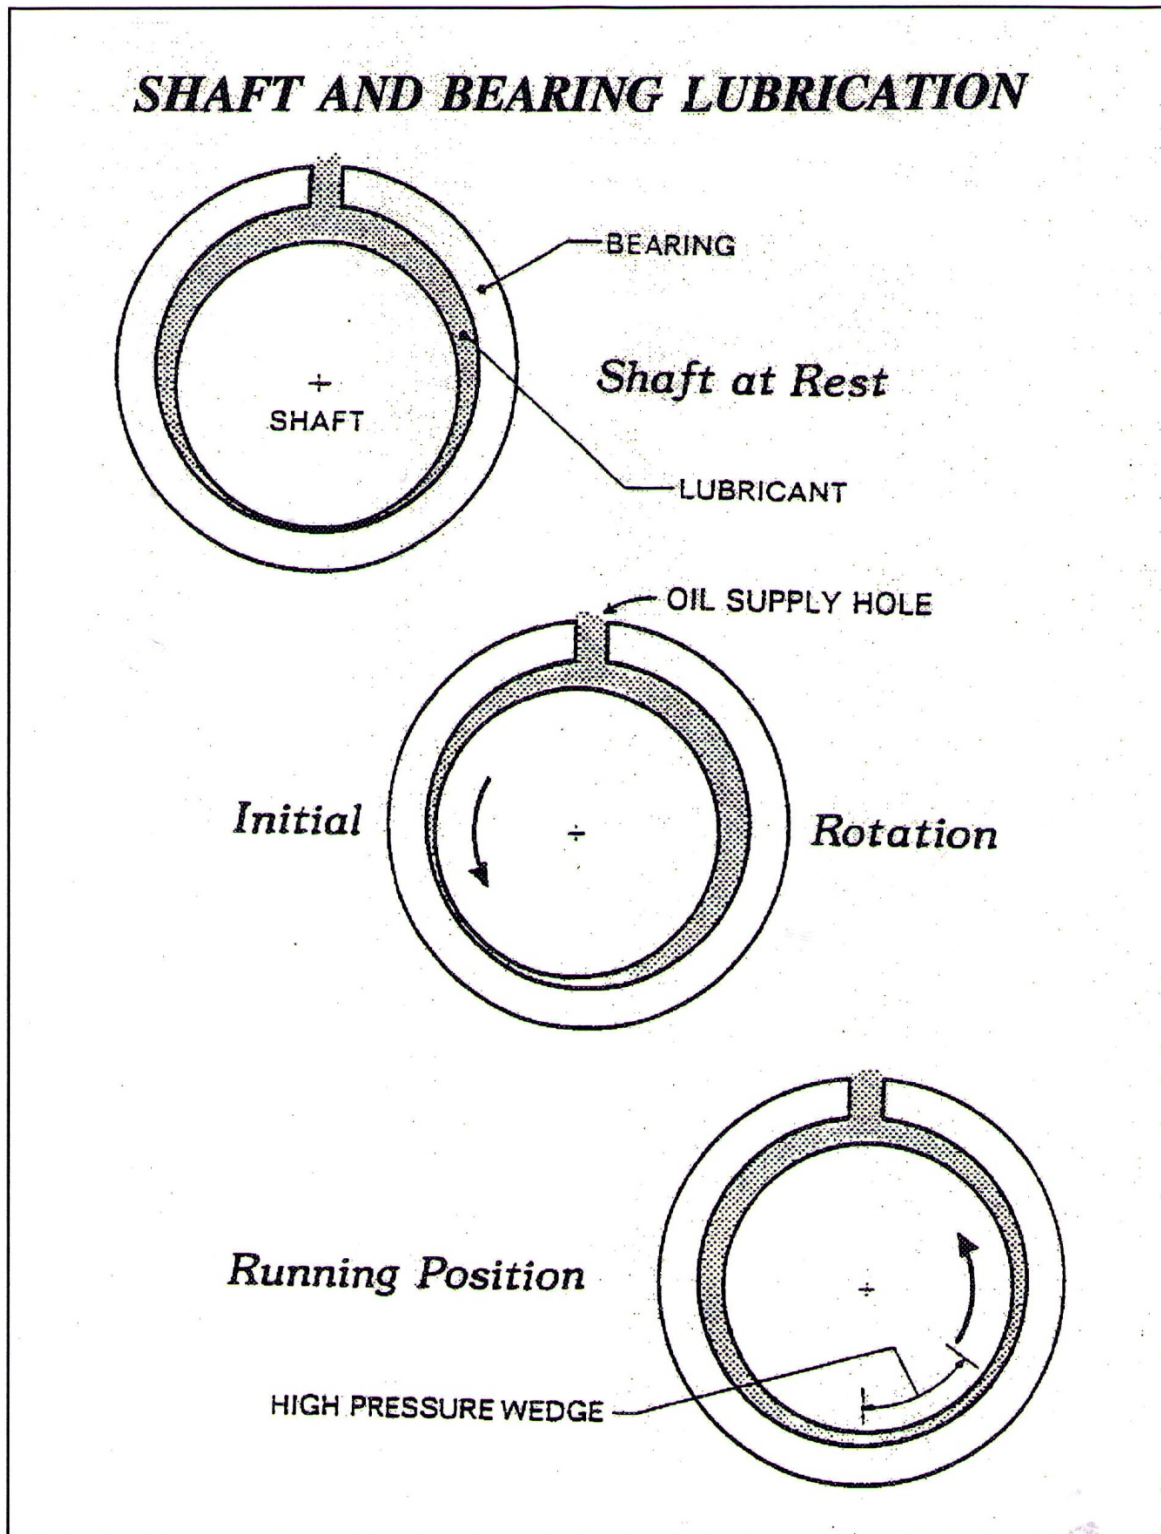

Figure 5-6 Shaft and Bearing
5.1.2.3 Shaft and Bearing - The situation shown in Figure 5-6 is typical of a crankshaft and bearing. The diameter of the shaft is slightly smaller than the bore of the bearing. This creates an oil clearance and non-parallel surfaces as before. Oil is supplied to the bearing through the hole in the top.
Initial rotation of the shaft causes it to climb the bearing as shown in middle diagram of Figure 5-6. As the climbing action begins, the oil is pushed into the space between the shaft and bearing due to the oil's ability to adhere to both surfaces. The action of the oil separates the two components creating a film of lubrication.